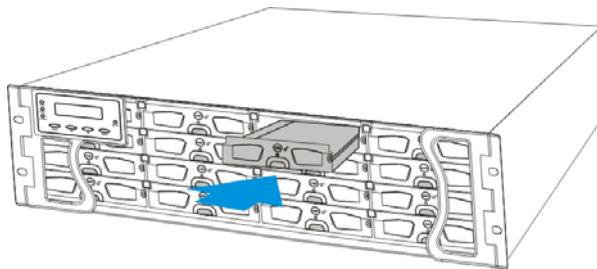

Figure 2-7: Installing a Drive Tray
Step 3. *Align the drive tray with the slot* in which you wish to insert it making sure that it is properly aligned within the drive bay. Gently slide it in until the drive tray reach the end of drive bay. This should be done smoothly and gently. (See *Figure 2-7*)